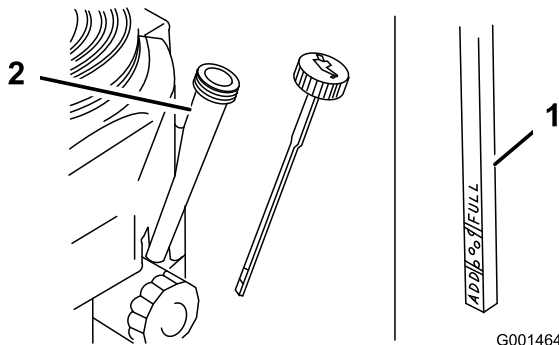

Figure 23
4. Clean around the oil dipstick (Figure 23) so that dirt cannot fall into the filler hole and damage the engine.
5. Unscrew the oil dipstick and wipe the end clean (Figure 23).
6. Slide the oil dipstick fully into the filler tube, but do not thread onto tube (Figure 23).
9. Slowly pour approximately 80% of the specified oil into the filler tube (Figure 23).